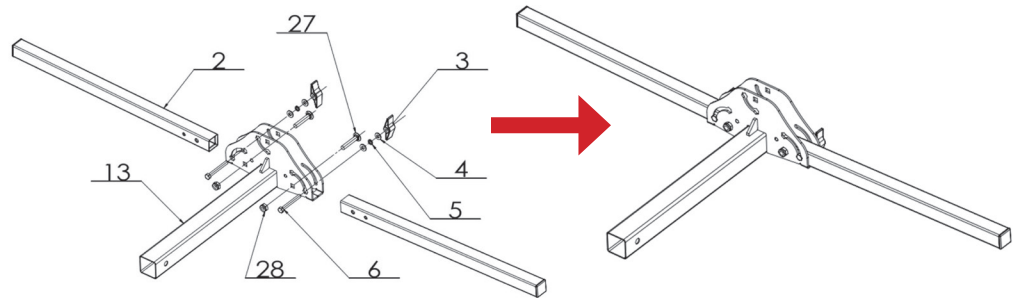

FIGURE 4
Assemble the extension frame. Repeat step 1, connecting Long Support Base Assembly (part #13) and (2) Horizontal Arms (part #2) by using (2) L-Pins, (2) M10 Carriage Bolts, (2) M10 Flat Washers and (2) M10 Locknuts (parts #3, #4, #5 and #6). See (**Figure 4**)